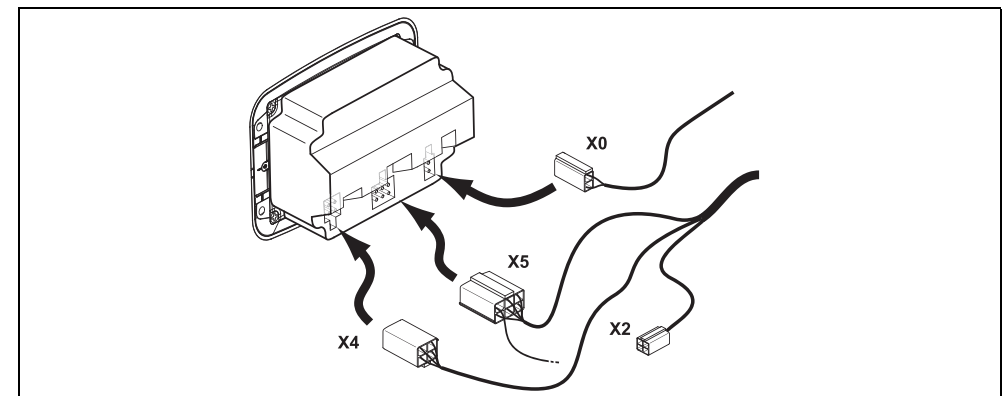

Fig. 51: Electrical connections of programmable control panel
- Connect plug X4 (4 poles) and X5 (6 poles) of the external wiring harness to the control panel (see Fig. 51).
- Connect plug X0 (2 poles) of the inside temperature sensor to the control panel (see Fig. 51).
- Optional: Connect plug X2 (4 poles) to receiver Telearstart/Thermo Call (see Fig. 51).